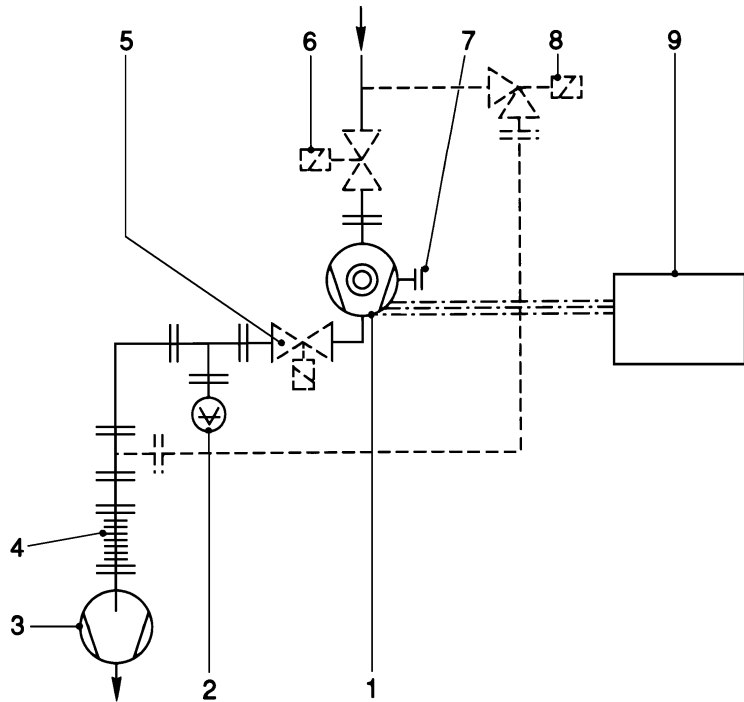

Fig. 12 Layout of a turbomolecular pump system
**Key to Fig. 12**
Fig. 12 shows schematically the design of a pump system incorporating a MAG with an additional foreline valve and an isolation valve between chamber and MAG.